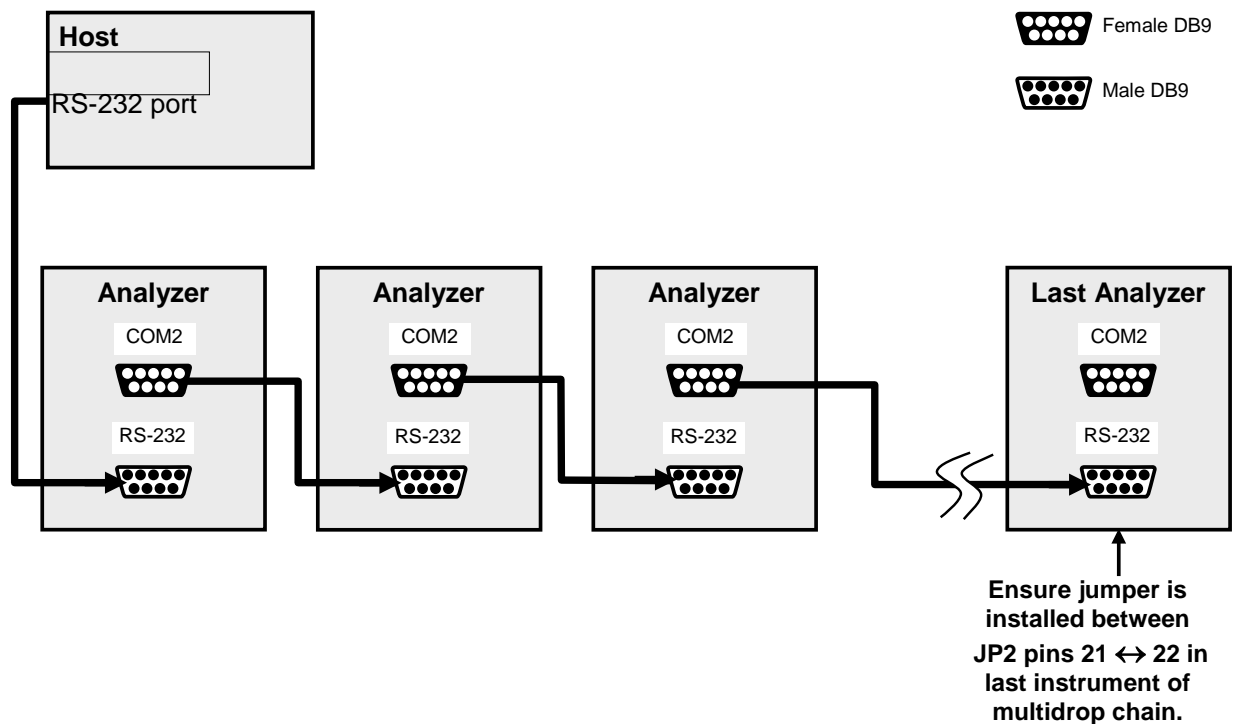

Figure 6-4. RS-232-Multidrop Host/Analyzer Interconnect Diagram
5. Referring to Figure 6-4, use straight-through DB9 male-DB9 female cables to interconnect the host RS232 port to the first analyzer's RS232 port; then from the first analyzer's COM2 port to the second analyzer's RS232 port; from the second analyzer's COM2 port to the third analyzer's RS232 port, etc., connecting in this fashion up to eight analyzers, subject to the distance limitations of the RS-232 standard.